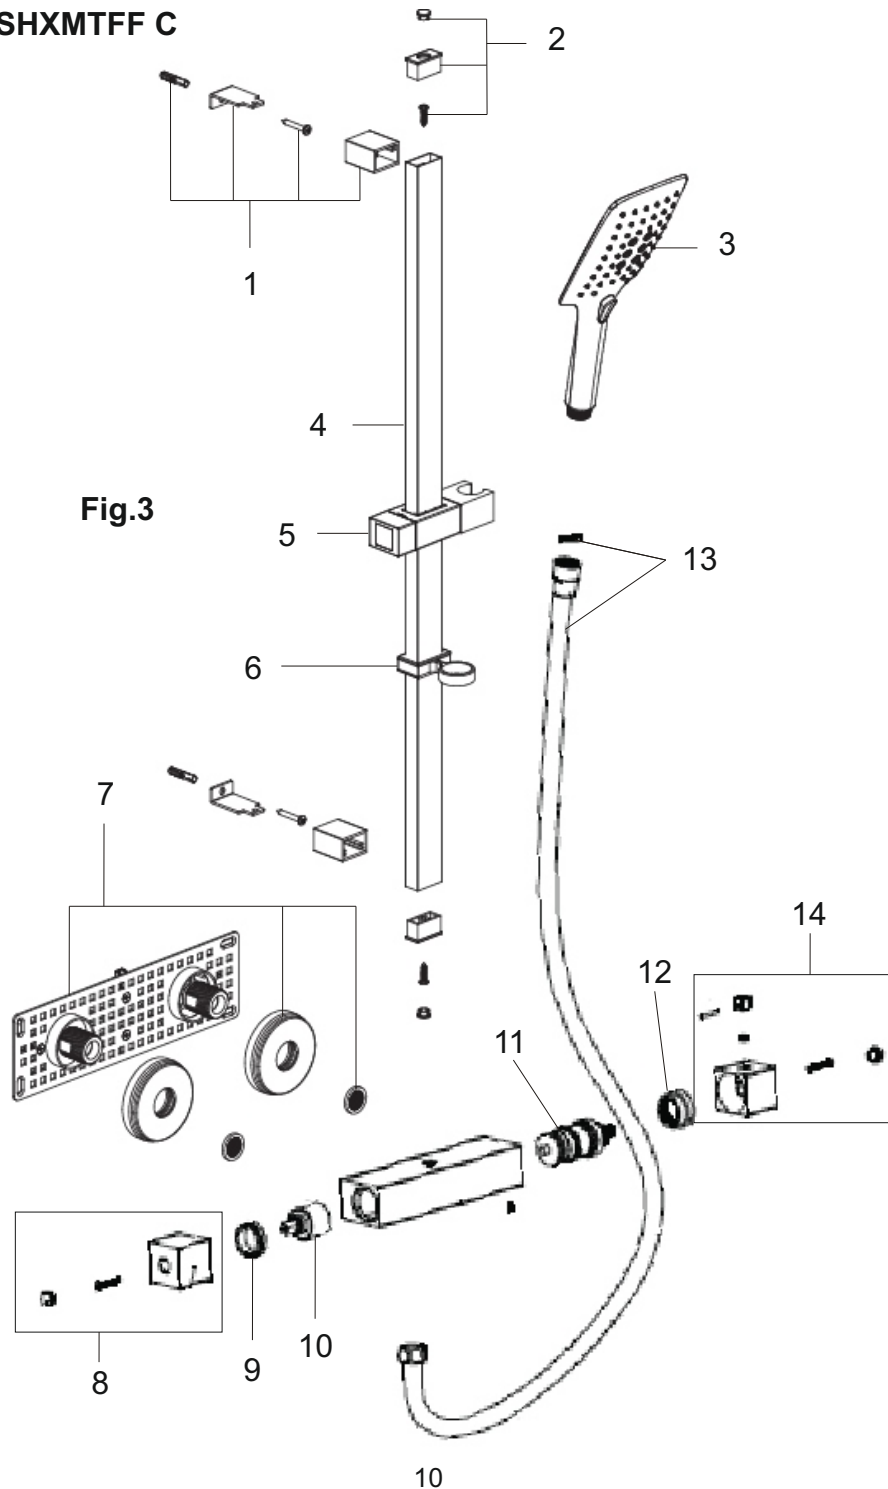

Fig.3
4.4 Adjustable Riser Installation (Ref:Fig.3) - VR SHXMTFF C only